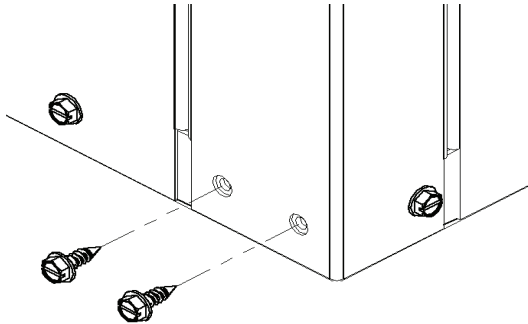

Fig. 5 — Remove Factory-Provided Screws
1. Remove and discard factory-provided screws from location where hanging brackets will be installed as shown in Fig. 5.